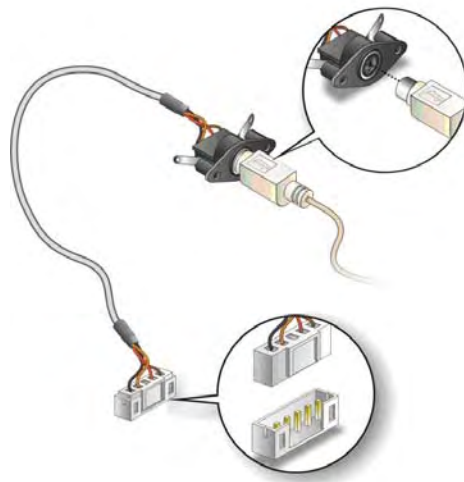

Figure 5-19: Keyboard/mouse Cable Connection
Step 2: Align the connectors. Correctly align pin 1 on the cable connector with pin 1 on the 3307740 keyboard or mouse connector. See **Figure 5-19**.
Step 3: Insert the cable connectors Once the cable connector is properly aligned with the keyboard/mouse connector on the 3307740, connect the cable connector to the onboard connectors. See **Figure 5-19**.